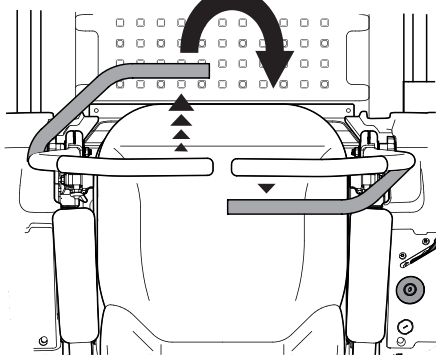

Figure 3-10
- To turn clockwise, move the left control lever forward while simultaneously moving the right control lever rearward. See Figure 3-10.